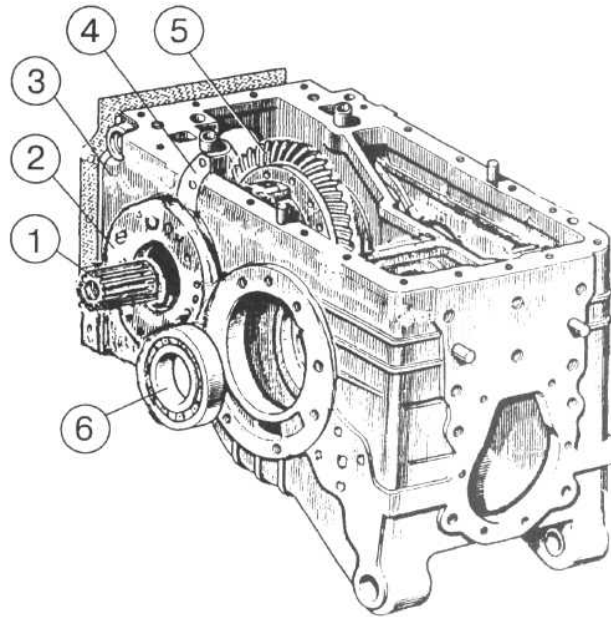

Figure 4.124
- b) unscrew bolts for fastening cup 2 (Figure 4.124) and screwing them inside dismantling openings in flange, press out the cup to extent allowing free dismantling of adjustment shims 4;